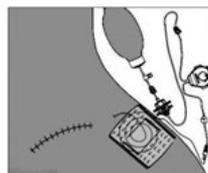

Figure 17
8. Secure the catheter by coiling it close to the insertion site and applying a surgical dressing or tape (See figure 17).